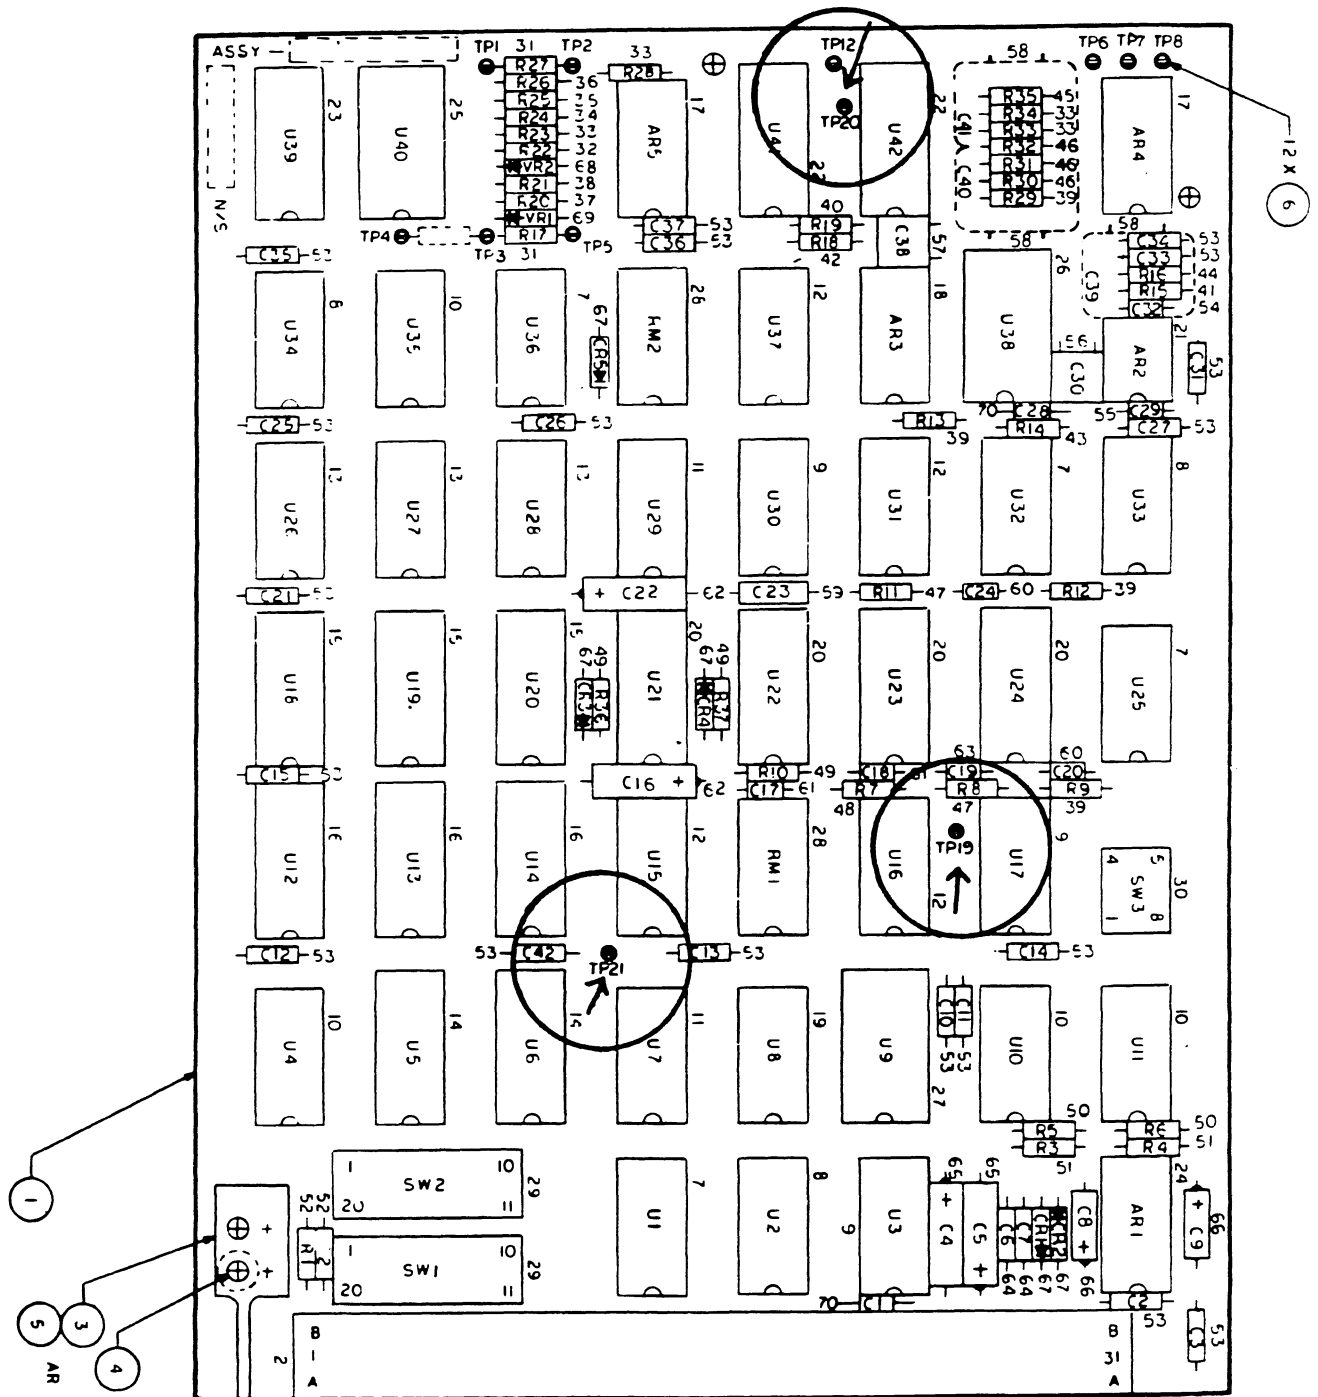

FIGURE 3-5 SERVO BOARD TEST POINT LOCATIONS
7. Set switch 2-10 on Servo board to OFF position (Ref. Figure 3-5).
11. Verify head loads and ready light illuminates then install the following jumpers on the Servo board; (Ref. Figure 3-5).
17. Connect channel 1 of oscilloscope to TP 19 of Servo board (Ref. Figure 3-5). Test point is not labeled on board.